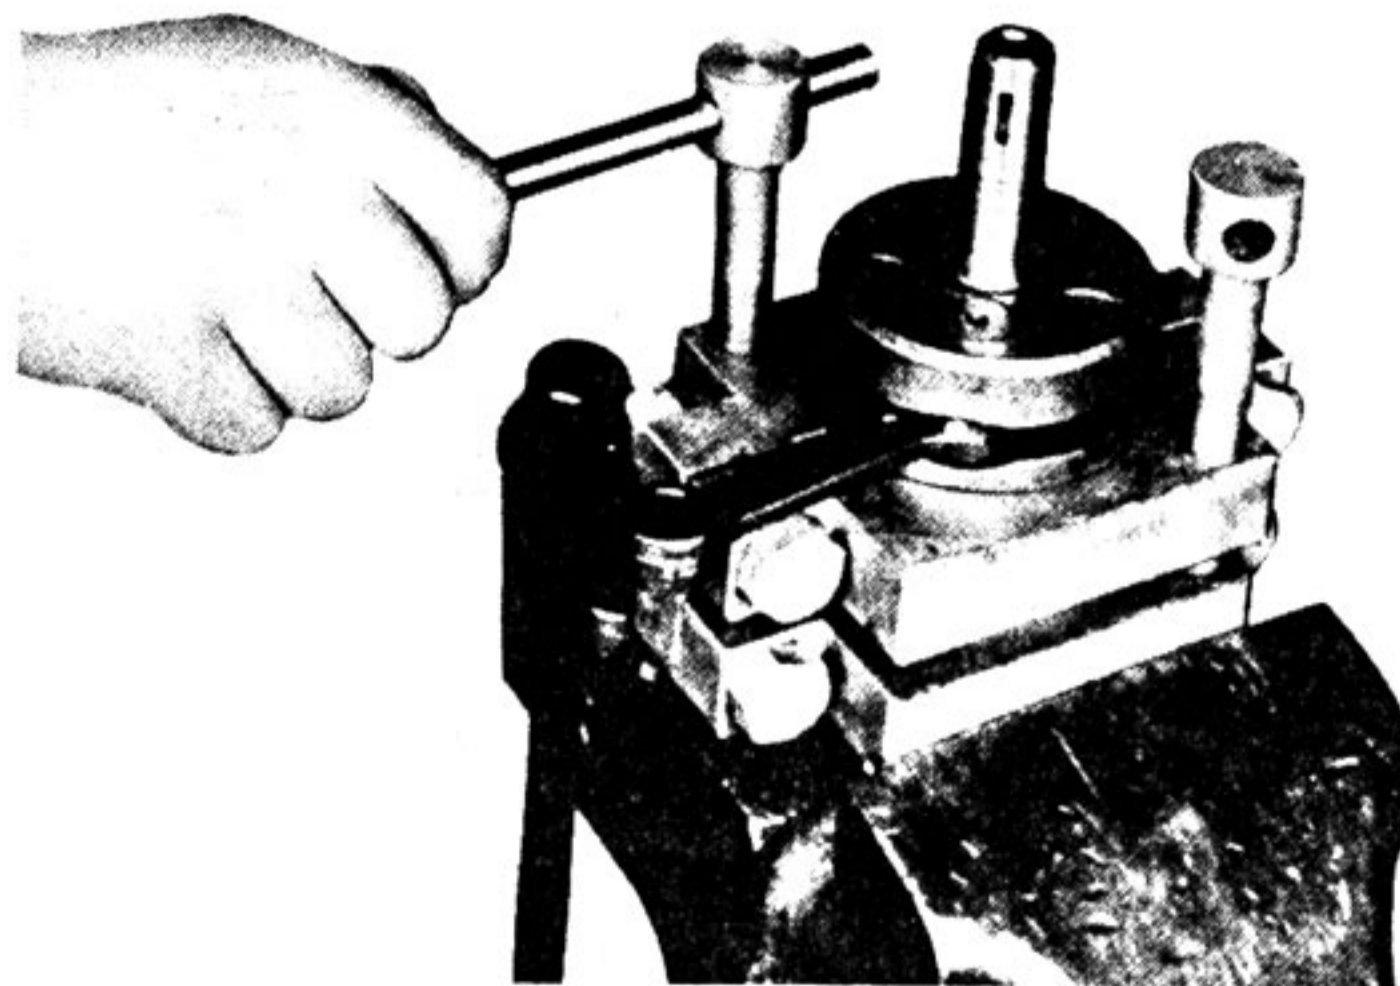

Fig. 4-17-8
- (4) Hold the crankshaft ass'y in a vice, and disassembly the ass'y into two parts by alternately giving one turn to each bolt (3) which is installed on the tool (2), so that the crankshaft ass'y splits into two parts. (Fig. 4-17-8)